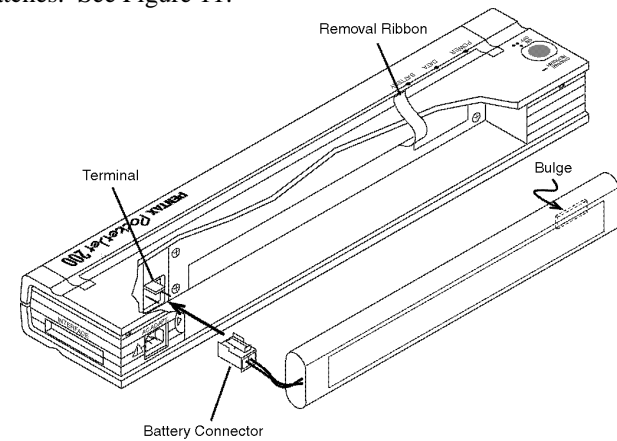

FIGURE 11. Pushing the battery connector into the terminal
3. Gently push the battery connector into the terminal on the inside of the printer's battery compartment next to the cover latch until it latches. See Figure 11.
CAUTION: Do not force the battery connector into the terminal. If you are having difficulty inserting the connector, make sure the connector tab is facing the top of the printer case. See Figure 11.